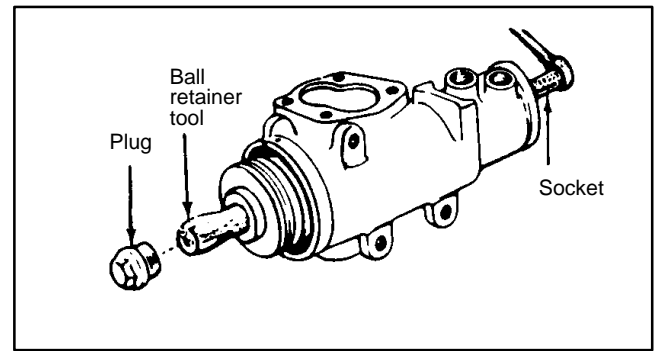

Figure 31
6. Remove retaining ring (Item 43), washers (Item 44) and seals (Item 45, 46), then remove bearing (Item 47) (Fig. 31).